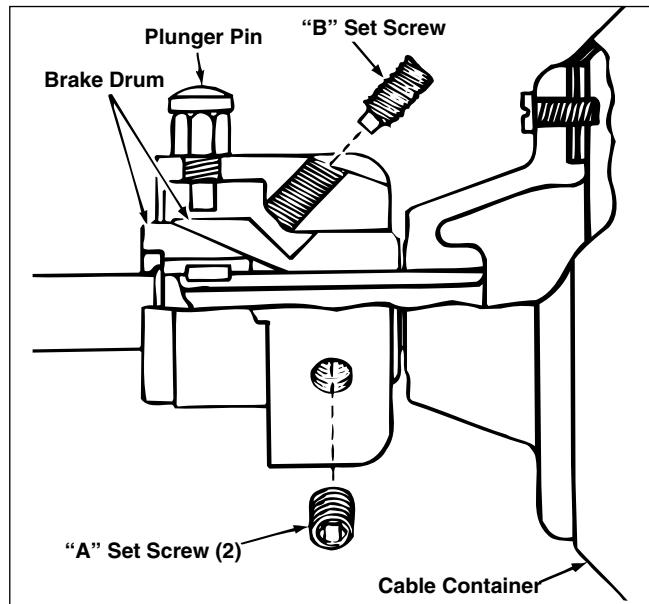

Figure 9 – Cable Adapter
4. Slightly loosen two set screws "A" using a  $5/32$ " hex wrench (Figure 9).
5. Turn set screw "B" clockwise  $1/4$  turn (Figure 9).